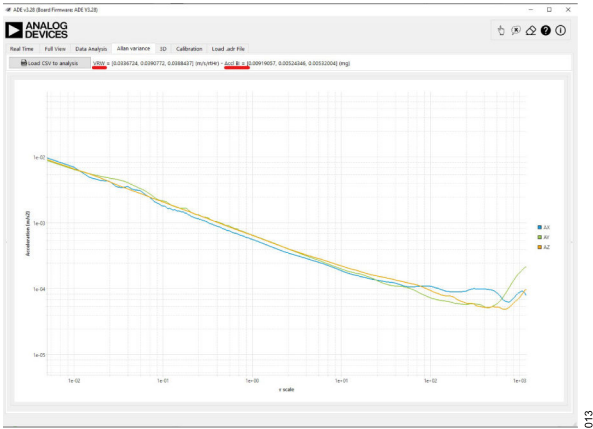

Figure 13. ADXL357 Root Allan Variance
Figure 13 shows an example of a root Allan variance curve obtained for the ADXL357 accelerometer. Notice that the velocity random walk (VRW) and bias instability (BI) are computed from the loaded data set as well, and displayed as an array formatted as X-axis, Y-axis, and Z-axis. Similarly, for gyroscopes, the angle random walk and BI are computed.